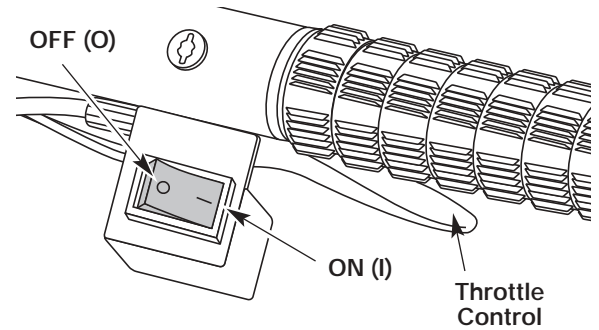

Fig. 6
2. Make sure the On/Off Stop Control in the **ON (I)** position (Fig. 6).